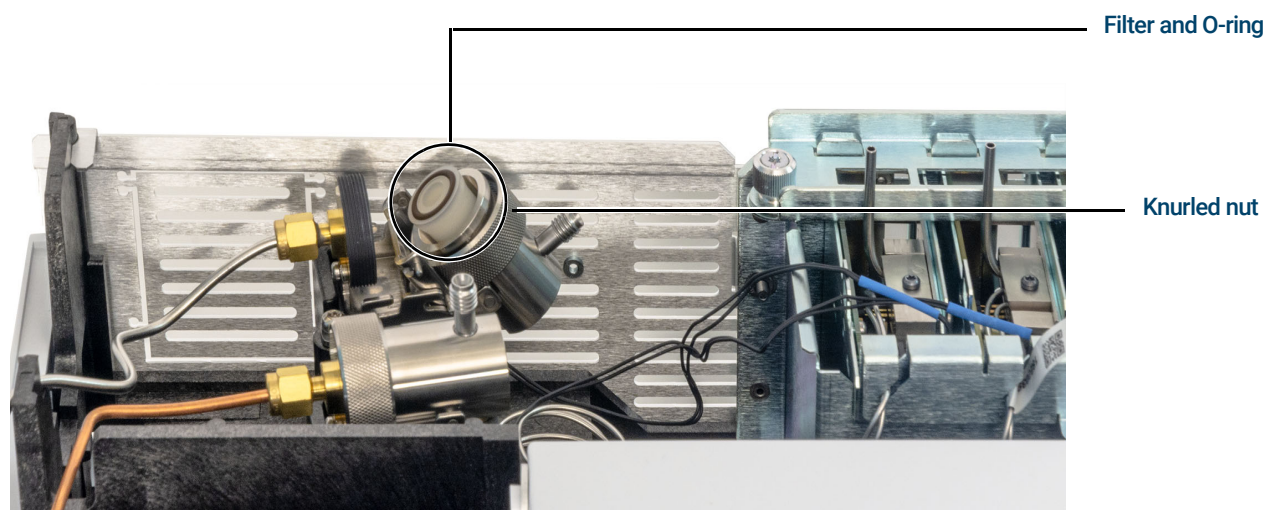

Figure 8. Slide trap assembly to expose the filter
- 5 Slide the trap assembly back from the guided mounting bracket and tilt up to expose the filter as shown in **Figure 8**.